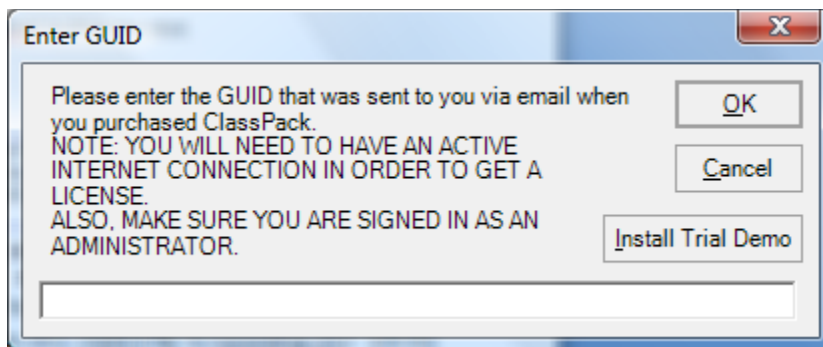

Figure 1: First time users will be prompted to enter a GUID or install a 15-day trial license.
2. The first time you run the software, you should receive a message box prompting you to enter a GUID (see Figure 1). The GUID should have been provided to you via email when you purchased the product. You will need to enter this GUID to install the license on your local machine. If you cannot locate your GUID, you have the alternative of clicking Install Trial Demo to install a 15-day trial version.